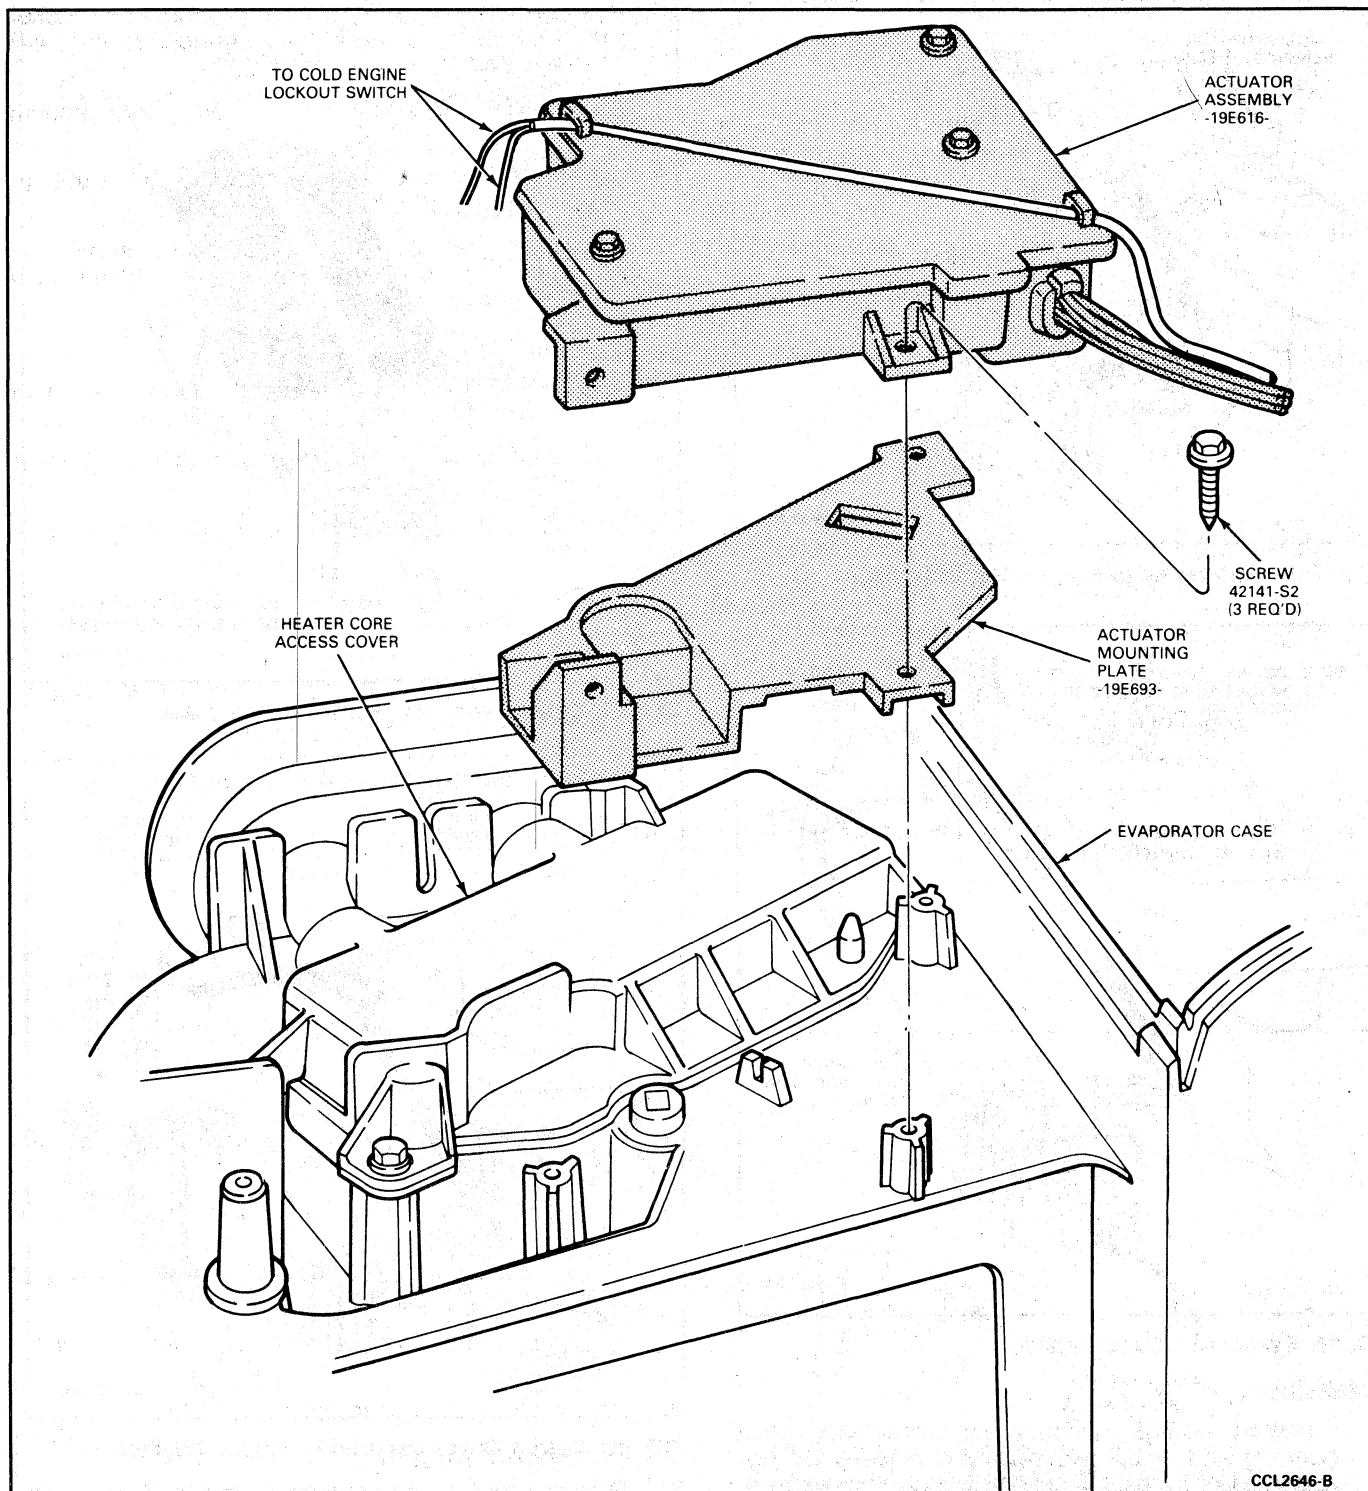

FIG. 36 Blend Door Actuator
8. Remove blend door actuator (three screws) and cold engine lock out switch which is held on by spring tension at outermost heater core tube (Fig. 36).